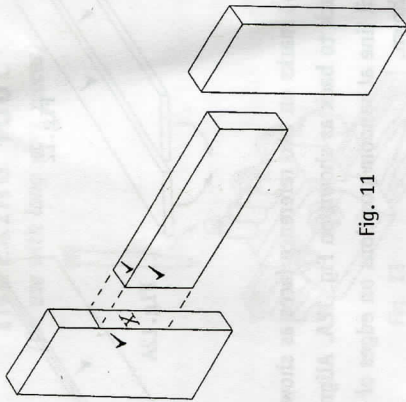

Fig. 11
**TO CREATE "T" TYPE JOINTS AS SHOWN IN FIG. 11, PROCEED WITH INSTRUCTIONS BELOW:**